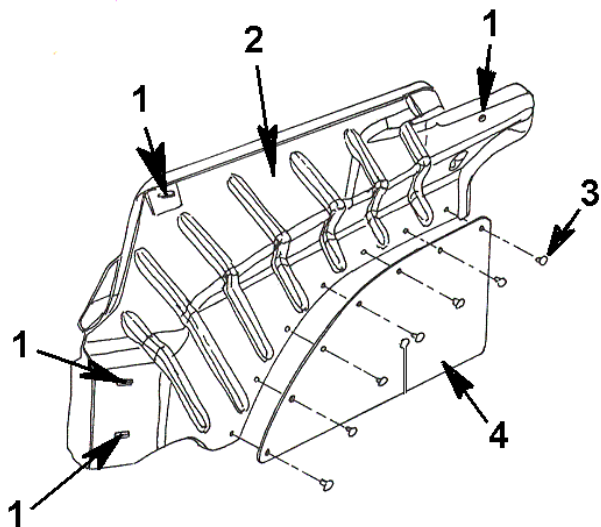

Figure 95 Splash Panel Remove/Install (Passenger Side Shown)
4. Insert the mounting bolts (Figure 95, Item 1) and lock washers.
7. The lower splash panel on the passenger (Figure 95, Item 4) side may be replaced if damage has occurred.
9. Insert the plastic insert fasteners through the lower splash panel (Figure 95, Item 3 and 4) into the fender splash panel (Figure 95, Item 2).